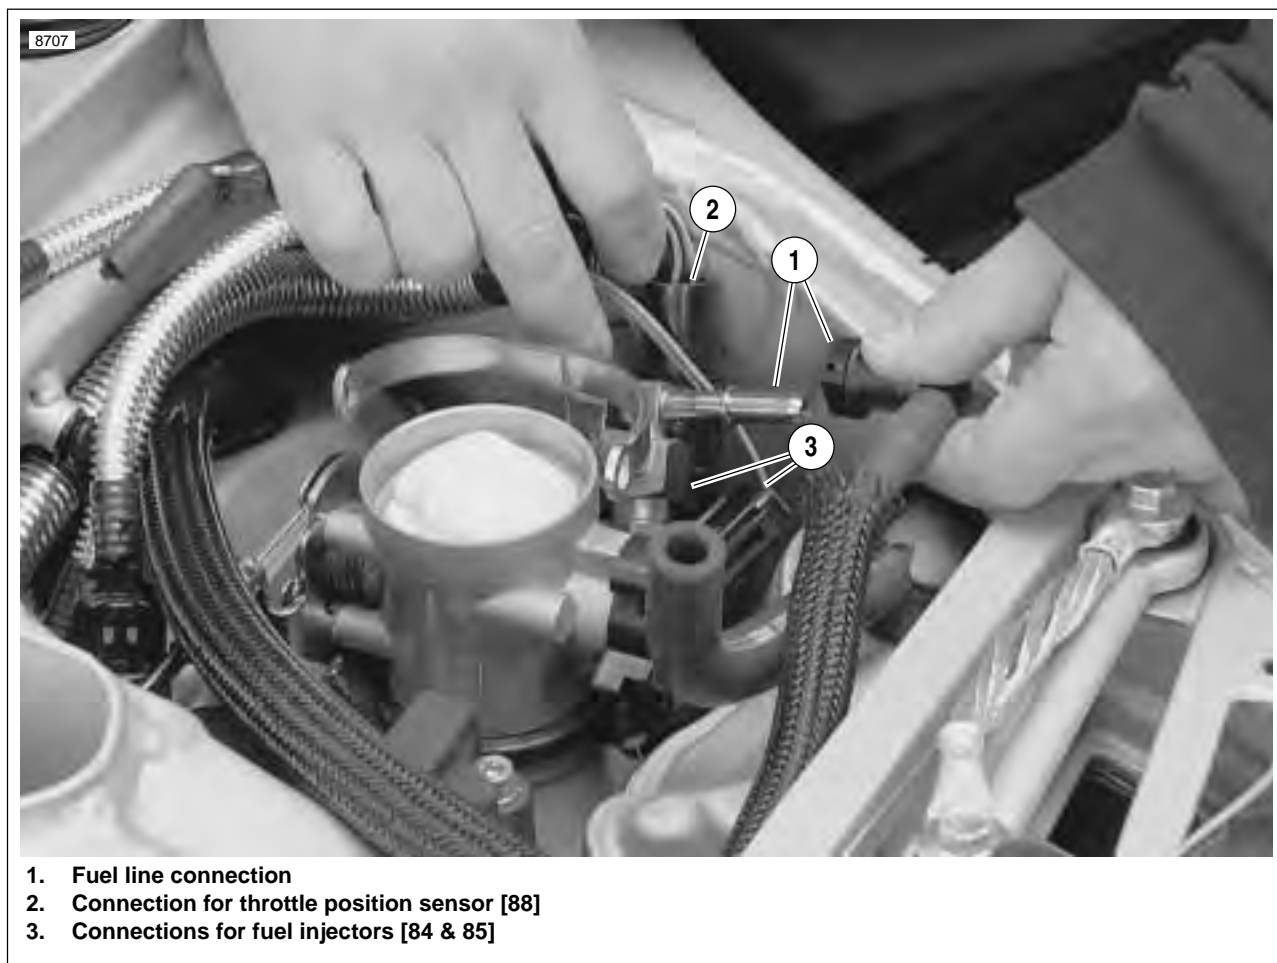

Figure 3-15. Fuel Line and DDFI Electrical Connections (Typical)
21. See Figure 3-15. Connect throttle position sensor (2) [88].
22. Connect fuel injector leads (3) [84 & 85].